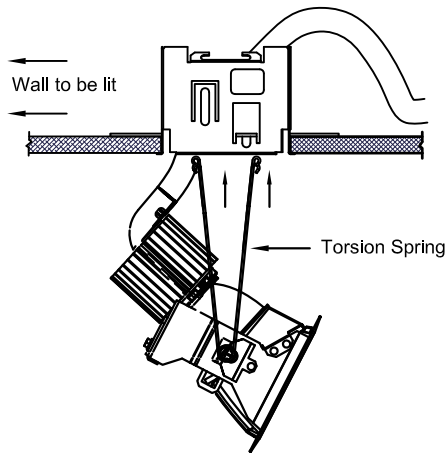

FIG. 7C
11. For Directional fixtures: Align (4) square slots in ceiling collar with (4) springs in fixture and gently push trim assembly up into collar. **See Fig. 7C**